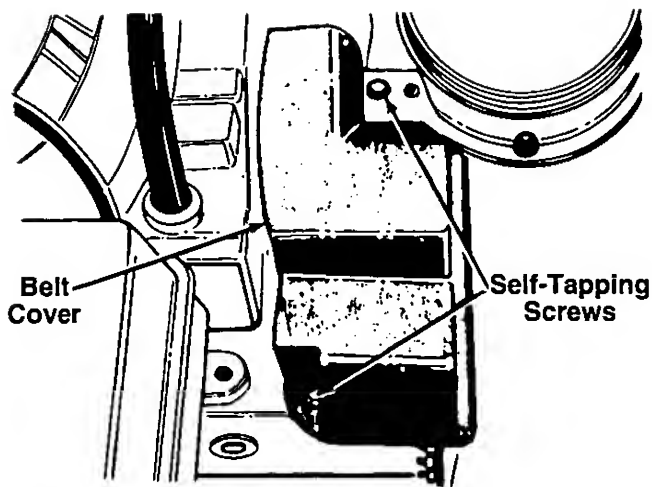

FIGURE 17.
1. Remove the plastic belt cover on the front of the engine by removing the two self-tapping screws. See figure 17.